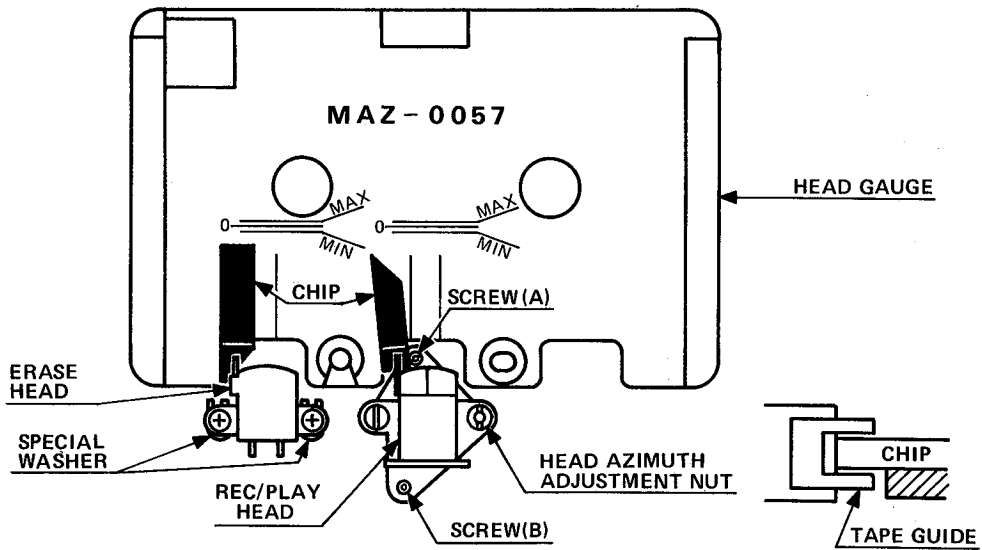

Fig. 1
2. Depress playback button and, adjusting the hexagon screws (A) and (B) to the same direction and turns, set the head so as the adjustment chip attached to the gauge not to touch the tape guide of the head as shown in Fig. 1.
2. Depress playback button and adjust the head high with special washer under the head so as the adjustment chip attached to the head gauge not to touch the tape guide as shown in Fig. 1.